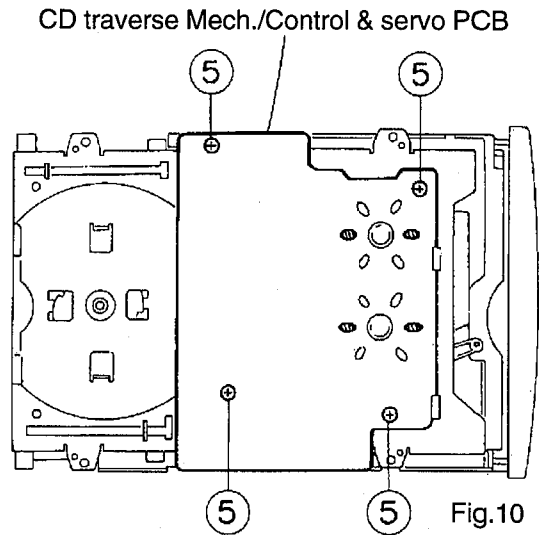

Fig.10
5. After turning over the CD traverse mechanism, remove the four screws 5 retaining the CD traverse mechanism control & servo P.C.board (See Fig.10).